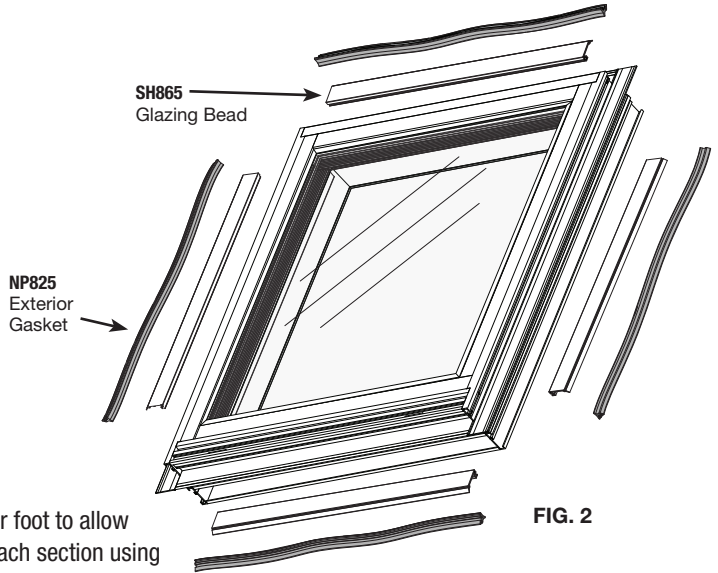

FIG. 2
**Step 4:** Support the frame at a 10°-15° angle and insert the Glass Panel, working it into position against the frame blocks **Figure 2**